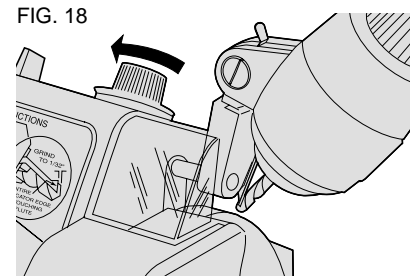

FIG. 18
2. Turn feed knob clockwise until bit is almost touching the wheel when swinghead is rocked back and forth (Fig. 18).